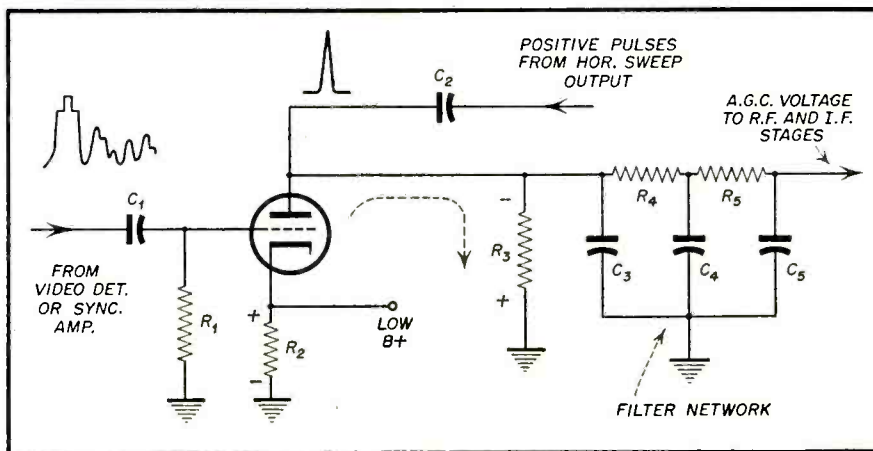
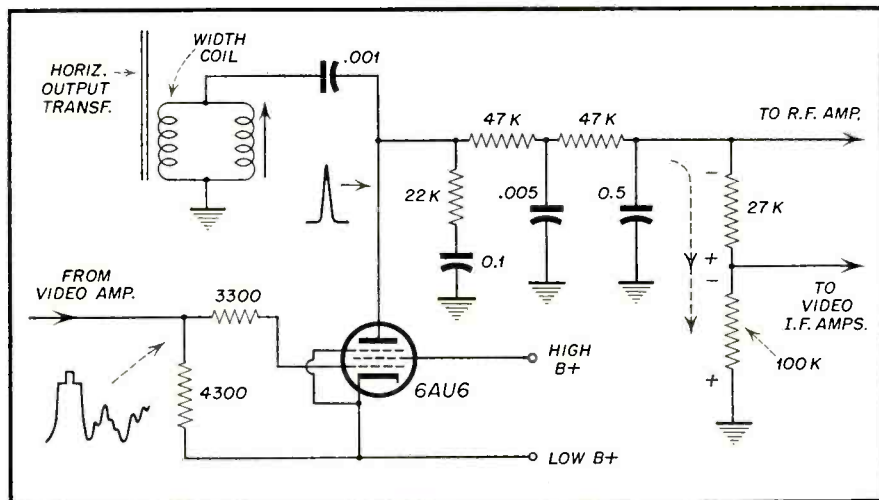
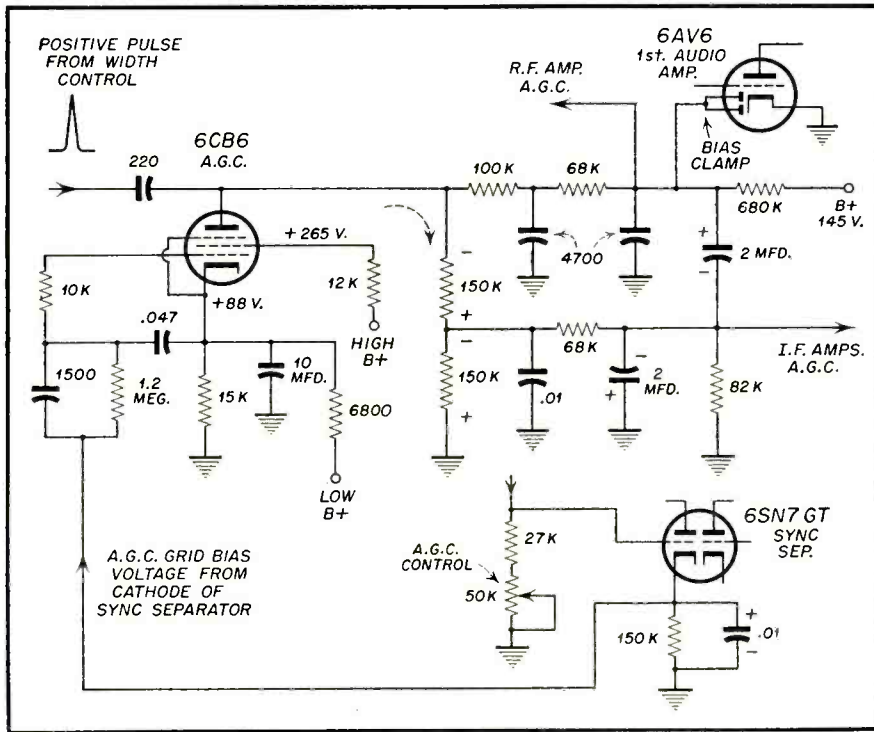

Fig. 1—Basic keyed *agc* circuit with waveform analysis and filter network.
Fig. 2—AGC used in Admiral Chassis 24D1, 24E1, etc. series receivers.
Fig. 3—Keyed AGC circuit used by RCA in Chassis No. KCS66. Bias clamp circuit is featured.
*Figure 1* is a typical keyed *agc* circuit. Plus B voltage is applied to the top of the cathode resistor (*R2*). Since both the grid and plate circuits are returned to ground (*R1* and *R3*) the positive polarity at the cathode would make both grid and plate circuits minus with respect to the cathode. Thus, the tube will not conduct until *both* the minus potentials are overcome. A positive spike is applied to the plate from the horizontal output circuit. This has sufficient amplitude to overcome the negative polarity of the plate and permit conduction, *providing* the grid bias is also reduced.
When the tube conducts, current flows from cathode to plate and *down* the plate resistor *R3* (*Fig. 1*) in the direction shown by the arrow. This makes the top of the resistor minus and this is the voltage used for bias purposes on the *rf* and *if* amplifiers. The filter network capacitors charge during conduction and hold this charge during tube non-conduction. This produces a steady *dc* voltage, for the *agc* tube acts as a rectifier
A typical commercial circuit which utilizes the basic principle detailed in the foregoing analysis of Fig. 1 is shown in Fig. 2. This is the *agc* system used in many Admiral receivers, including those with chassis 24D1, 24E1, 24F1, 24G1, etc. In this instance a pentode 6AU6 is utilized instead of a triode, though the basic function is essentially the same. The
The typical *agc* circuit shown in Fig. 3 is that used in a number of RCA receivers, including those using the KCS66 chassis. Here, a 6CB6 pentode tube is used as an *agc* tube in similar fashion to that shown in Fig. 2. A low plus B is again applied to the cathode circuit, while positive pulses are again derived from the width coil for the plate of the *agc* tube. The signal for the grid, however, is somewhat different than that previously described. In Fig. 3, a voltage is derived from across the cathode resistor of the sync separator circuit. This is an average *dc* bias voltage but this will change according to the sync level in the sync separator circuit. Thus, as the sync level increases at the separator, more current will flow through the cathode resistor and a more plus voltage will be applied to the grid of the 6CB6 tube. While this is a somewhat different method for securing the voltage for the grid of the *agc* circuit, the function is essentially the same as occurs in circuits previously discussed. Tube conduction still cannot occur except during the presence of the positive pulses at the plate of the *agc* rectifier. Thus, the amount of negative *agc* bias voltage developed across two 150 ohm